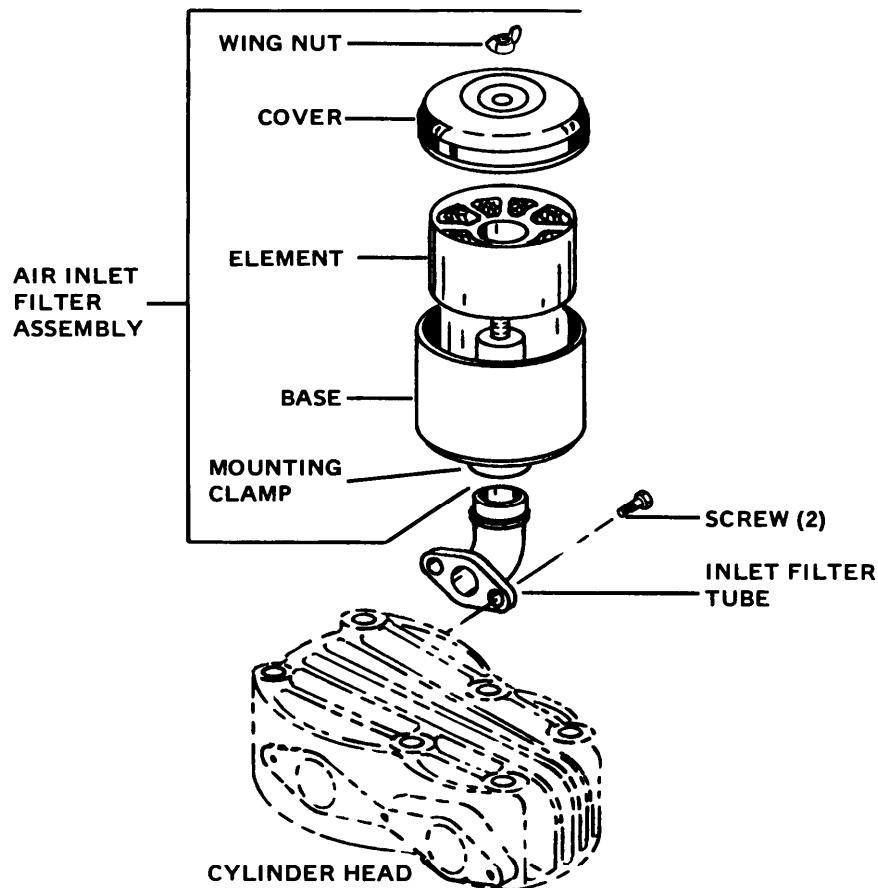

Figure 3-5. Air intake filter inspection, service, or replacement.
**3-11. Air intake filter.** Inspect, service, or replace the air intake filter as shown in figure 3-5.
Legend for fig 3-5: —————→
Legend for fig 3-5: Continued
*b. Service.* Service the air compressor as shown in figure 3-4. Inspect air intake filter and service if necessary as shown in figure 3-5.